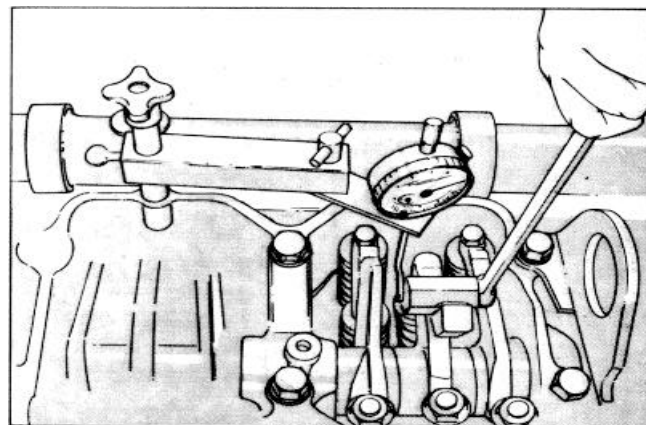

Fig. 14-73 (OM1052L). Actuate The Rocker Lever.
- Actuate the rocker lever to push the injector plunger to the bottom of its travel. Use the ST-1193 Rocker Lever Actuator from the 3375842 Adjustment Kit to actuate the rocker lever, Fig. 14-73. Let the plunger rise to the top of its travel. Actuate the lever again and set the indicator at zero as you hold the plunger at the bottom of its travel.